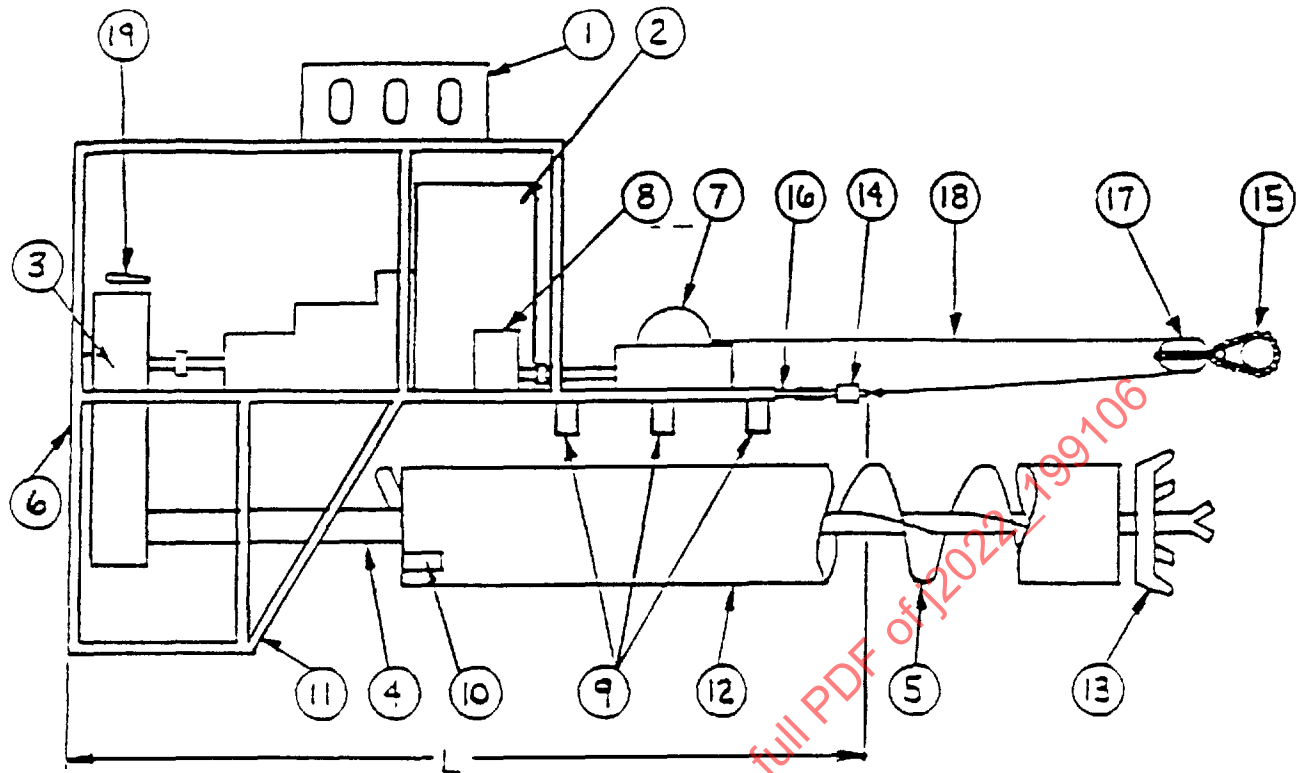

FIGURE 4—CRADLE-TYPE AUGER BORING MACHINE
4.1.2.1 Nomenclature—(Refer to Figures 4 and 5)